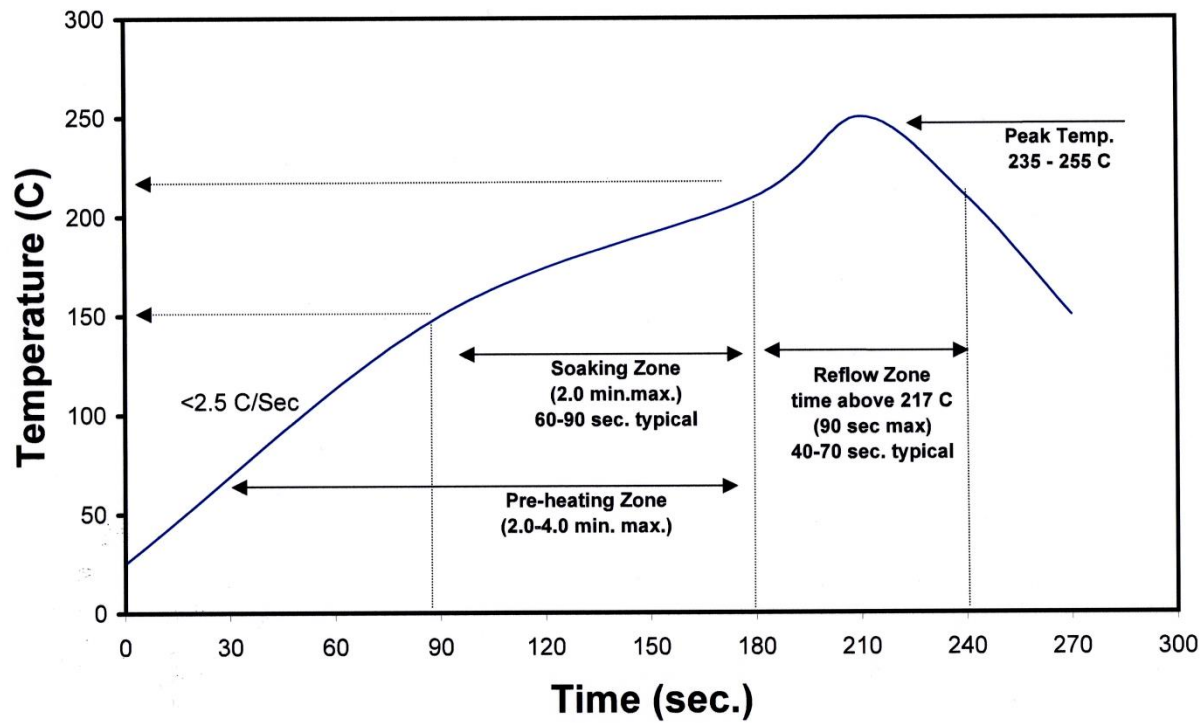

Figure 3: Reflow soldering profile for lead free soldering.
- Solder conditions per JEDEC 020D. See Reflow Soldering Profile Figure 3